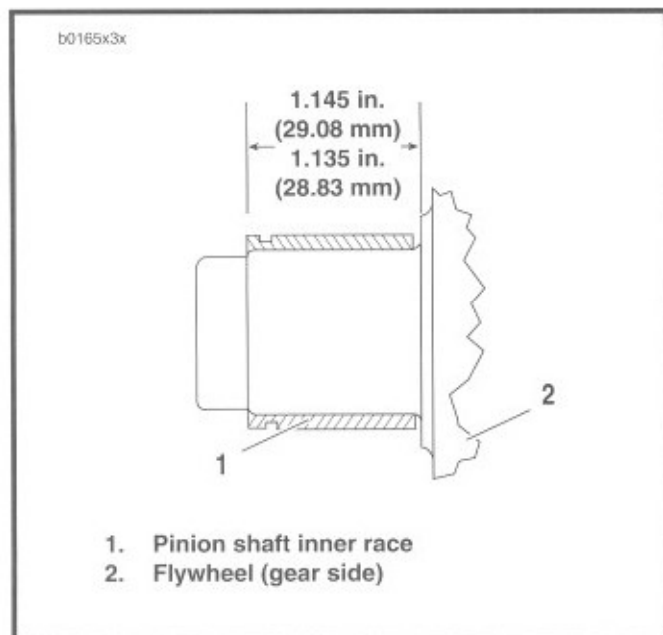

Figure 3-88. Inner Race Location
See Figure 3-88; dimensions are shown for fabrication of tools used in pressing the outer race into or out of crankcase.
11. See Figure 3-88. Press new inner race on pinion shaft as shown. The new inner race must be ground by a machinist to OD dimension range given in Pinion Shaft Bearing Selection table for the finished lapped ID of the outer race. The finished inner race must meet these specifications.